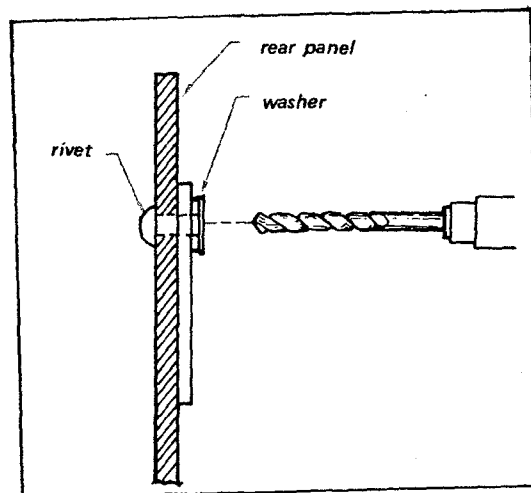

Fig. 2-7 Rivet replacement
2. Bore out the rivets using a drill bit slightly larger in diameter than the rivet. See Fig. 2-7.